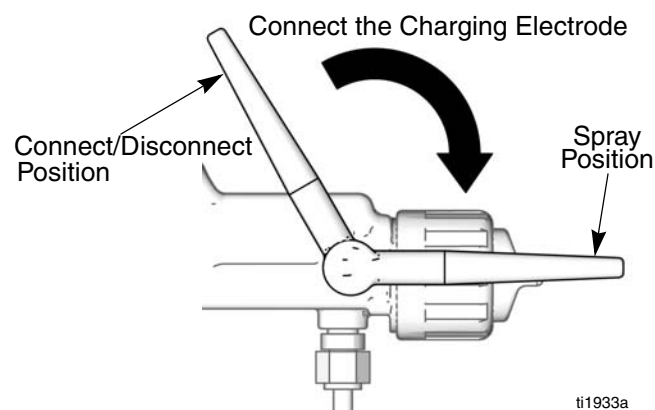

FIG. 4
2. Press electrode on in Connect/Disconnect position shown in FIG. 4.